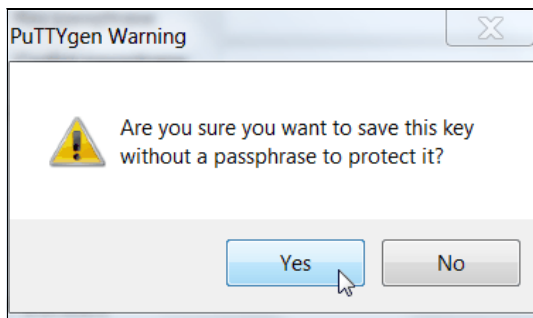

Figure A-6 Confirm the security warning
6. You are prompted with a warning message (see Figure A-6). Click **Yes** to save the private key without a passphrase.